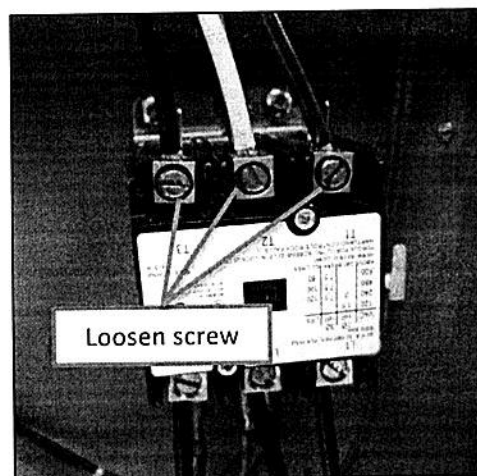
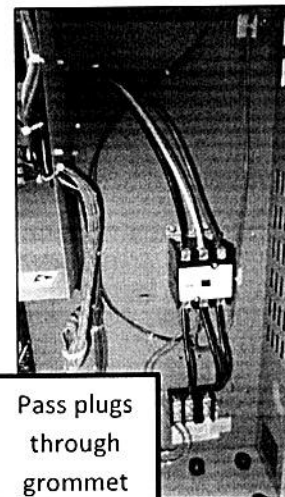

Figure 1 : Contactor Terminals
Figure 4 : Grommets
1. Trace the new black and (if applicable) yellow wires along the path of the previous wires of the same color. Start from the cylinder (figure 3), through the grommets (figure 4) to the contactor(s)(figure 1).
2. Trace the new Red wire along the path of the previous Red wire(s). Start from the cylinder (figure 3), through the grommet (figure 4), loop through the current sensor on the driver board (figure 2), to the contactor(s) (figure 1).
4. Insert bare wire end into contactor. (Order : Black, Yellow, Red, See Figure 1)